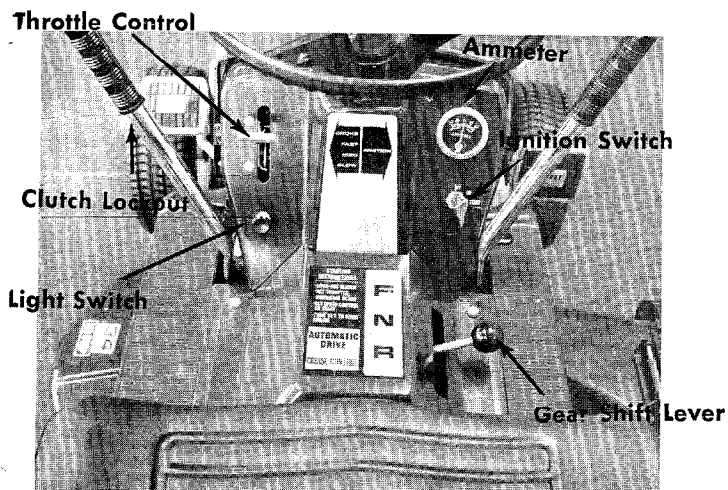

FIGURE 7. CONTROLS
a. Throttle Control. The throttle control is used to regulate the engine speed and choke the engine. The engine should be operated from $\frac{3}{4}$ to full throttle when operating the cutting deck or snow thrower (optional). See figure 7.
b. Gear Shift Lever. The gear shift lever is used to shift into one of four **Forward Gears**, **NEUTRAL** or **REVERSE**. See figures 7 and 8.
h. **Ammeter. (Electric Start Model Only)** The ammeter registers the rate of battery charge or discharge. The ammeter should register on the plus side (+) when the engine is running the fast position until the battery is completely charged. With a fully charged battery or with the engine idling the ammeter will not show a charge. See figure 7.
i. **Light Switch. (Electric Start Only)** Pull the light switch out to turn on the lights. The lights will only operate when the engine is running. See figure 7.
Electric Start. See figure 7. Turn the key to the START position to start the engine. When the engine is running, let the key return to the ON position. To stop the engine, turn the key to the left to the OFF position and remove it to prevent accidental starting.
- Step 4. Set the throttle control in the CHOKE position. See figure 7.